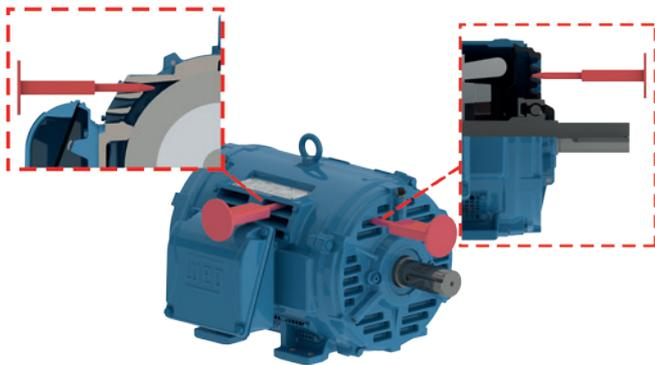

Figure 20 - IP degree of protection for the frame - first characteristic numeral.
- First characteristic numeral 2: machine protected against solid objects greater than 0.4724 in (12 mm) and contact with or approach to live or moving parts inside the enclosure by fingers or similar objects not exceeding 3.15 inch (80 mm) in length (Figure 20).